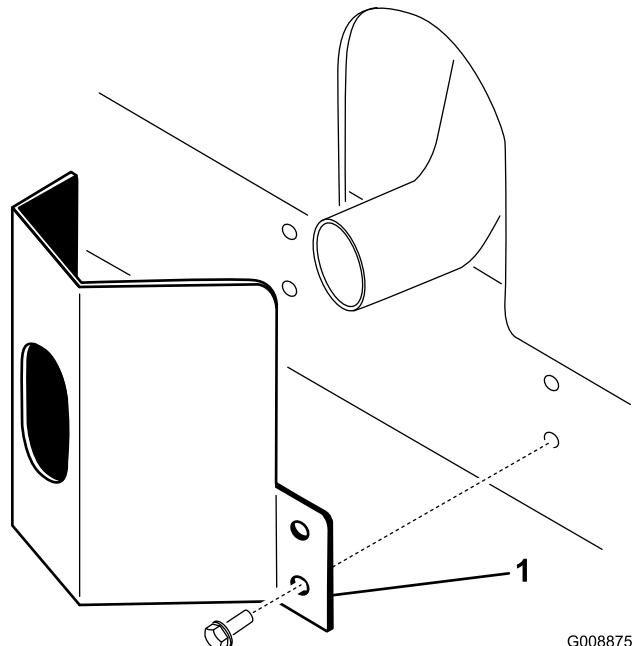

Figure 8
1. Position the exhaust guard around the muffler while aligning the mounting holes with the holes in the frame (Figure 8).
2. Secure the exhaust guard to the frame with 4 self-tapping screws (Figure 8).